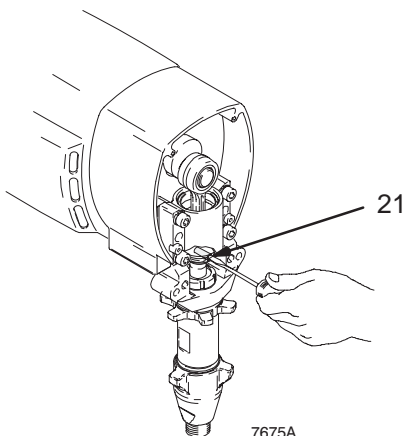

Fig. 25
2. Fig. 25. Push pin (21) into holes.